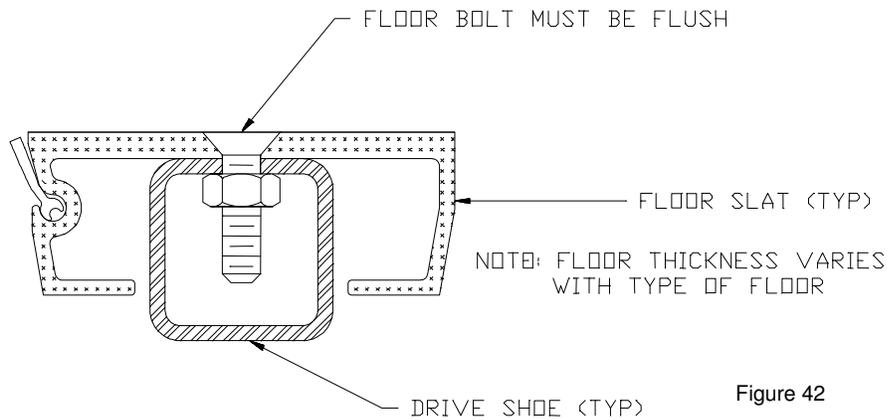

Figure 42
7. Mount floor slats/planks onto shoes. (Figure 42).